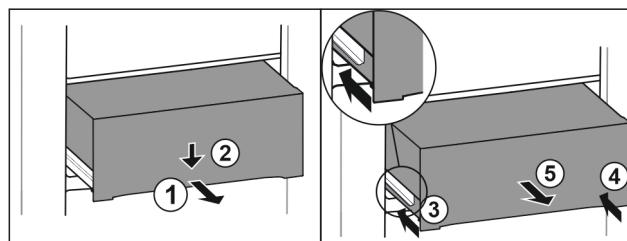

Fig. 132
- ▶ Pull out the drawer halfway. Fig. 132 (1)
- ▶ Press down the drawer on the front. Fig. 132 (2)
- ▶ Push in the left rail approximately 2 cm (13/16 in). Fig. 132 (3)
- ▶ Push in the right rail approximately 2 cm (13/16 in). Fig. 132 (4)
- ▶ Remove drawer to the front. Fig. 132 (5)